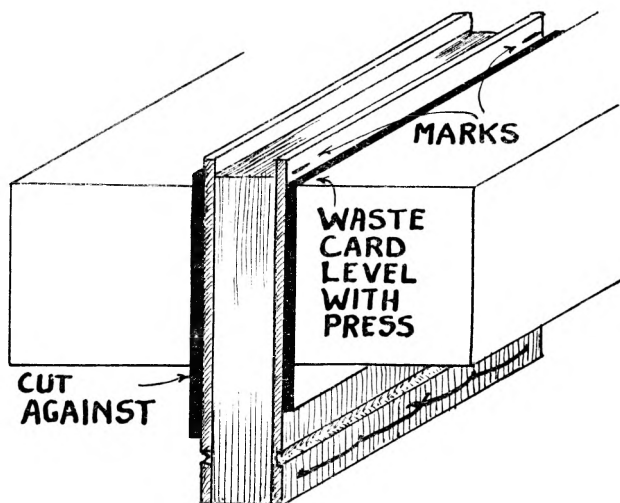

Fig. 114
17. Place a piece of waste card at the front just below the two marks and parallel with them and another piece of card at the back as a cut-against. Lower the book into the cutting press until the front card is exactly level with the cheek of the press. Screw the press up tightly keeping the cheeks parallel. Check to see that the back of the book is quite flat in the press, fig. 114.